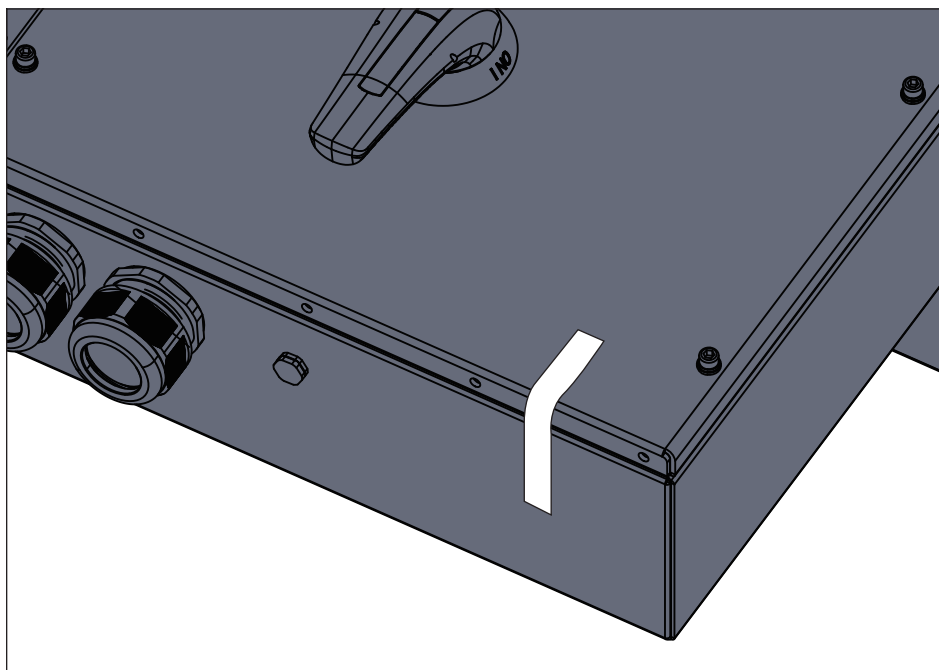

Figure 3-25: Apply a security seal on DC wiring box
- After completing the wiring operation and ensuring the cover no longer needs to be opened, please refer to **Figure 3-25** to apply a brand new one-time-use security seal (item 7, **Table 2-1**) .